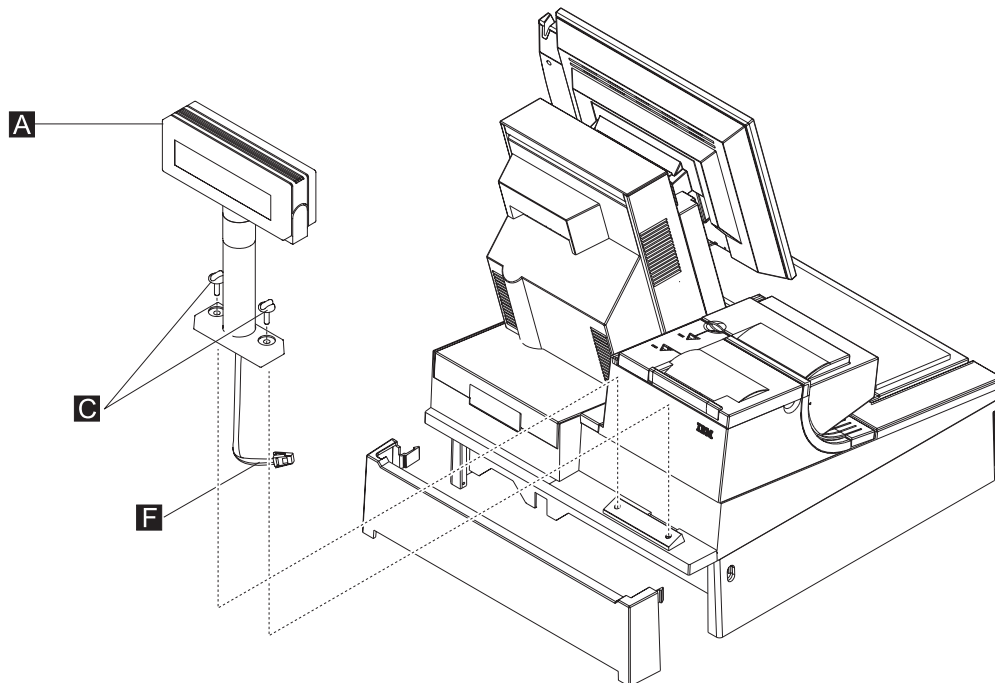

Figure 35. Installing the distributed customer display onto the keyboard integration tray
- a. Route the character display cable through the hole behind mounting post as shown in Figure 35. You might need to lay the display on its side to connect the display cable to the system unit rear connector panel.
- c. Attach the distributed customer display **A** to the cash drawer mounting post with two thumbscrews **C**. Snap the entire unit into place at the rear of the tray, as shown in Figure 35.